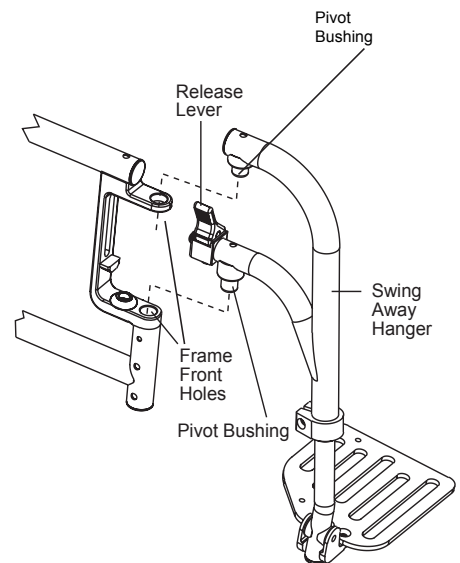

Figure 23
1. Align the pivot bushings with the frame front holes, sliding in the bottom pivot first. This must be done with the hanger slightly off center of the frame. See Figure 23.